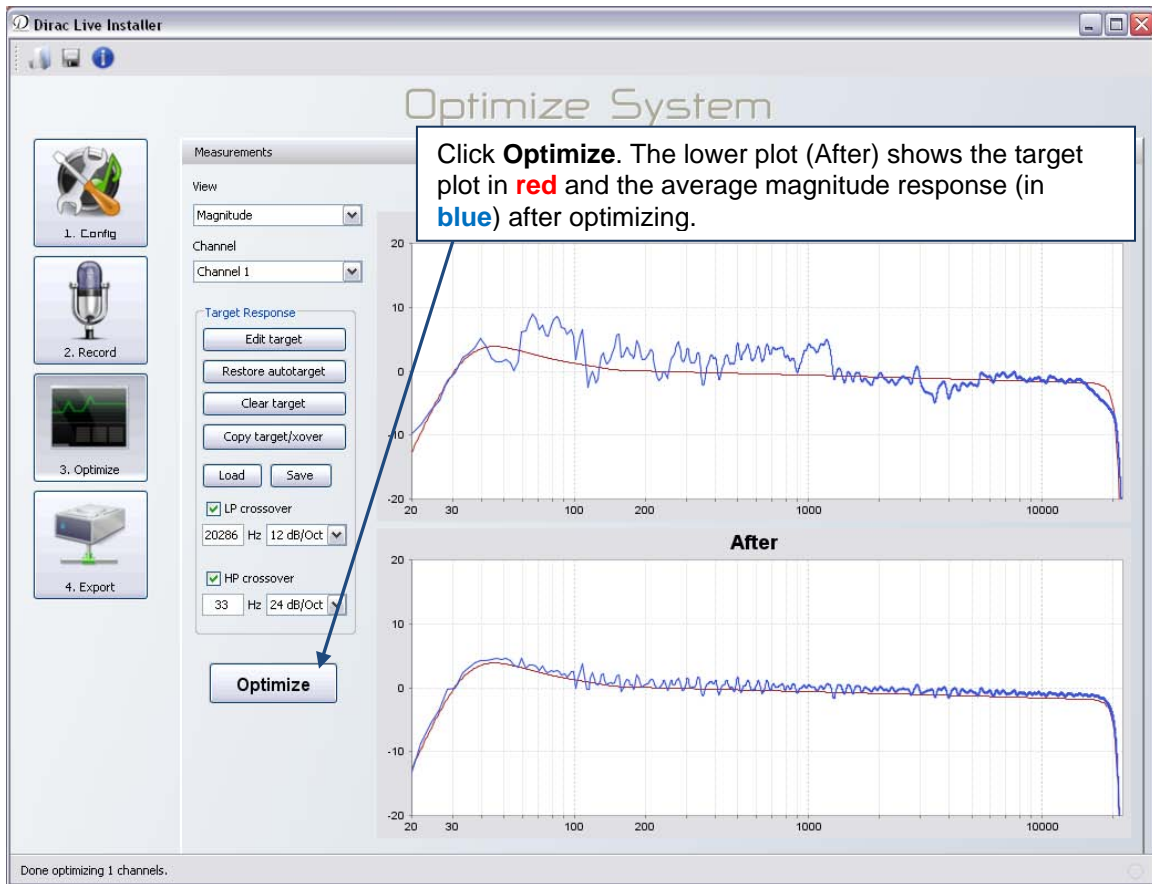

Figure 17. Optimize System Screen
4. Press the **Optimize** button. The Dirac Live® filters will optimize both the impulse response and the stationary frequency response of each channel. See Figure 17.